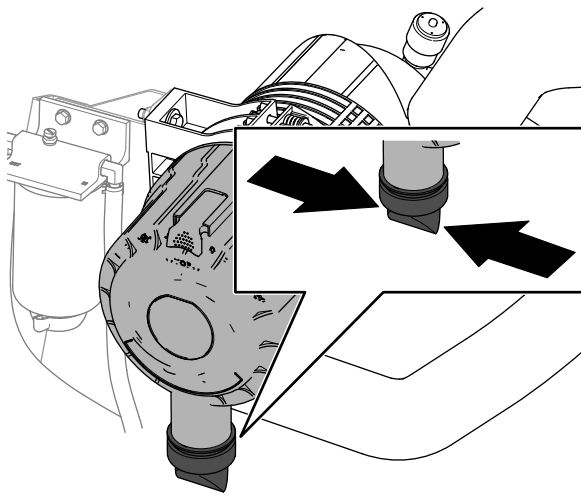

Figure 73
4. Squeeze the dust-ejector valve (Figure 73).